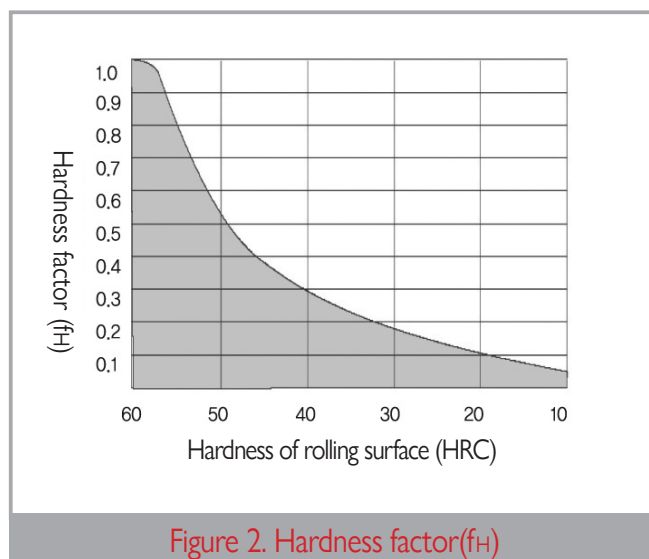

Figure 2. Hardness factor(f_H)
- C : Basic dynamic rated load (N)
- P_C : Calculated load (N)
- f_H : Hardness factor (See Figure 2.)